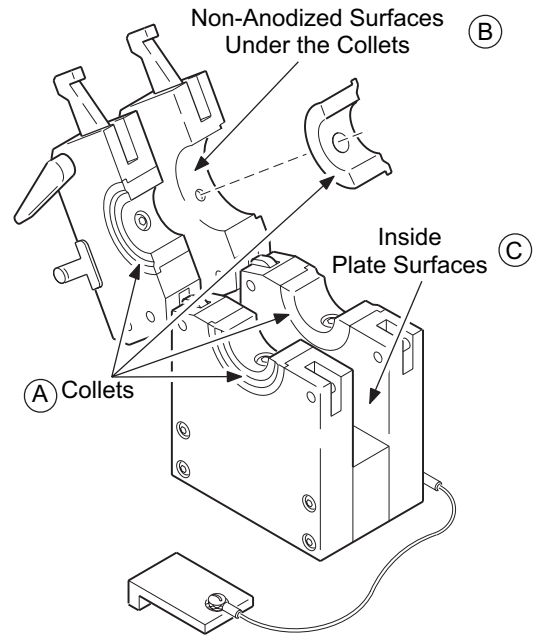

Figure 20 Cleaning the Collets and Collet Mounting Surfaces
1. Inspect the fixture block for cleanliness, wear and damage. See Figure 20.
1. Inspect and clean the collets. See Figure 20(A).
4. Remove any oxides from the non-anodized mating surfaces of the side plates with a fine-grit abrasive pad. See Figure 20(B).
5. Remove any dirt and oxides from the inside surfaces of the side plates with a clean, soft cloth. See Figure 20(C). Remove heavier deposits with a fine-grit abrasive pad.